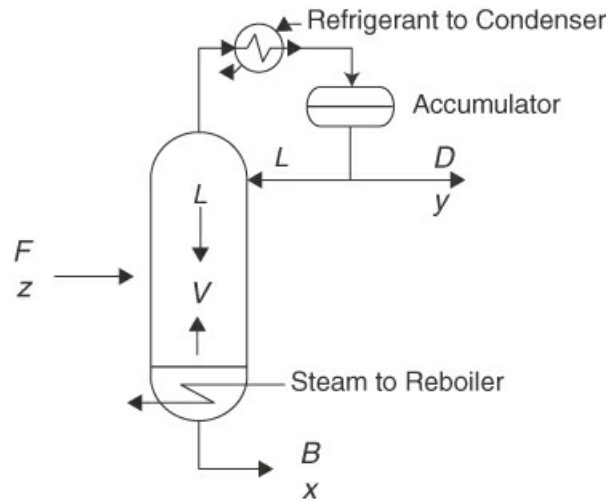

Figure 3.3 Schematic of a distillation column
If we neglect much of the detail (i.e., pumps, valves, and many of the lines) and focus on the overall function of a distillation column, we can develop a schematic of a single distillation column, as shown in Figure 3.3. The steam to the reboiler vaporizes a portion of the liquid in the bottom of the column (V), and the overhead condenser condenses the vapor in the top of the column and stores it in the accumulator. The vapor from the reboiler flows up the column, passing through trays, and the liquid from the accumulator flows down the column (L), contacting the vapor on each of the internal trays, thus concentrating the more volatile components in the vapor and the less volatile components in the liquid. Note that only the elements that affect material and energy balances are included in this figure, that is, the feed (F) and feed composition (z), the products (D and B) and their compositions (y and x , respectively), the steam to the reboiler, and the refrigerant to the condenser.